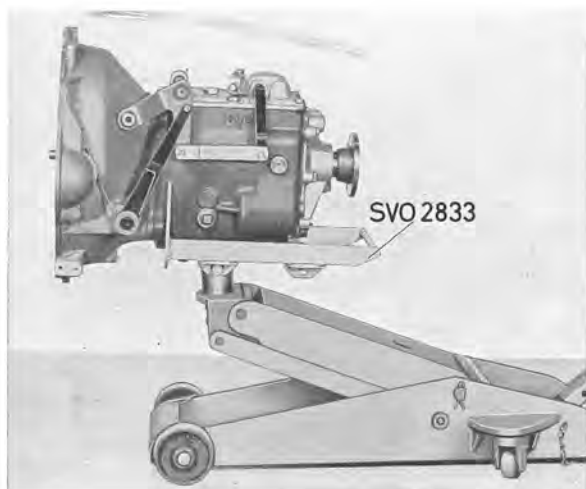

Fig. 4-16. Fixture for removing gearbox
- 2833 Fixture for gearbox. Used on garage jack when removing and fitting gearbox, see Fig. 4-16
5. Replace the lifting plate on the jack with fixture 2833. The pin in the fixture should then be located in its front position for gearbox M 400 and in the rear position for the M 410 gearbox. Support the gearbox with the fixture. Slacken the bolts in the clutch casing. Pull the gearbox rearwards and then lower it, see Fig. 4-16.